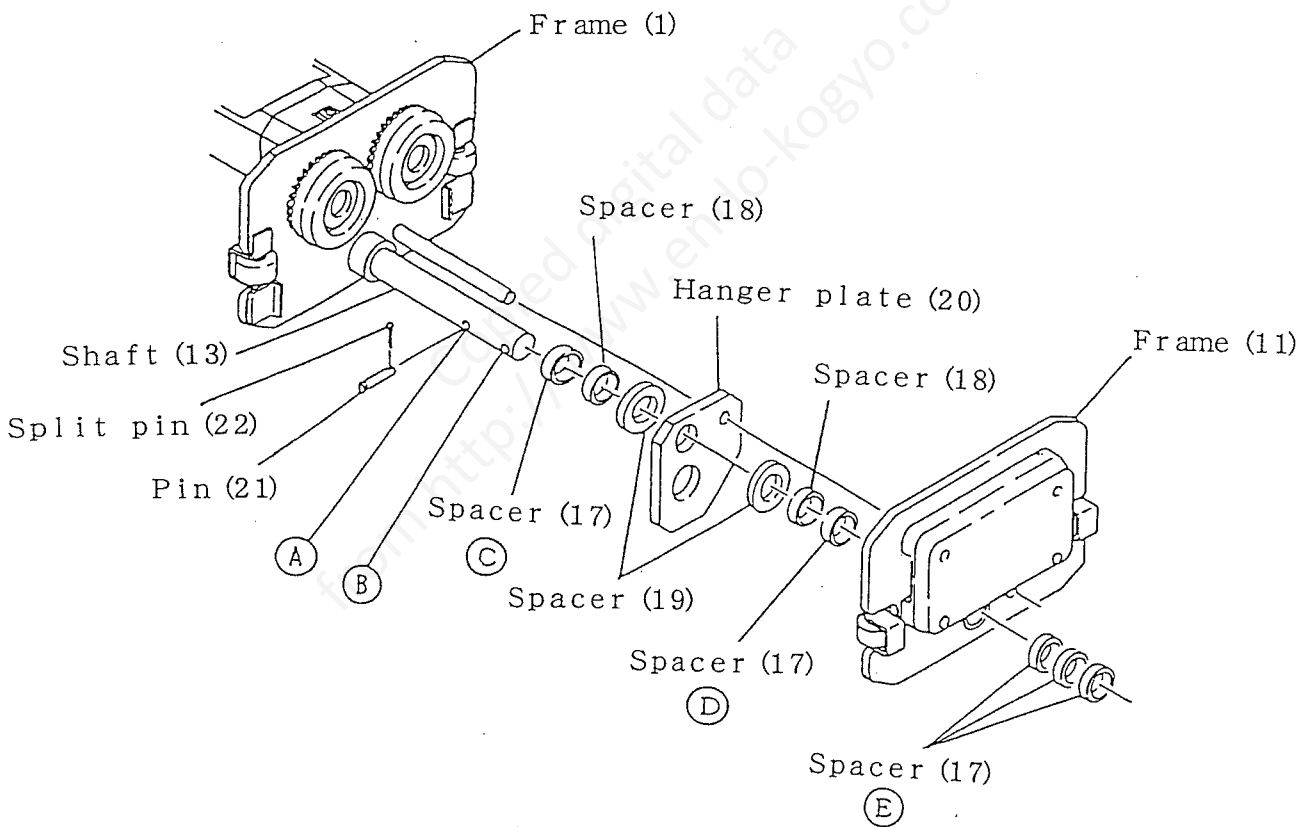

Fig. 3
Referring to Table 2 and Figure 3, adjust the trolley width using the following procedure.
- 1) Remove Split pin (22) which is temporarily fixed on Pin (21), and remove Pin (21).
- 2) Remove Frame (11), Spacers (17), Spacers (18), Spacers (19) and Hanger plate (20) from Shaft (13).
- 3) Attach Spacers (17) to Shaft (13) according to Table 2 and Figure 3, and attach Spacers (18), Spacers (19) and Hanger plate (20).
- 4) Attach Frame (11) on Shaft (13).
- 5) Insert Pin (21) into the hole ⑥ of Shaft (13), and fix with Split pin (22).
- (1) Remove the stopper from the rail end and install the trolley.
- (2) Install the stopper at the rail end and fix securely.
■ When installing the trolley on the middle of the rail (See Figures 3 and 4):